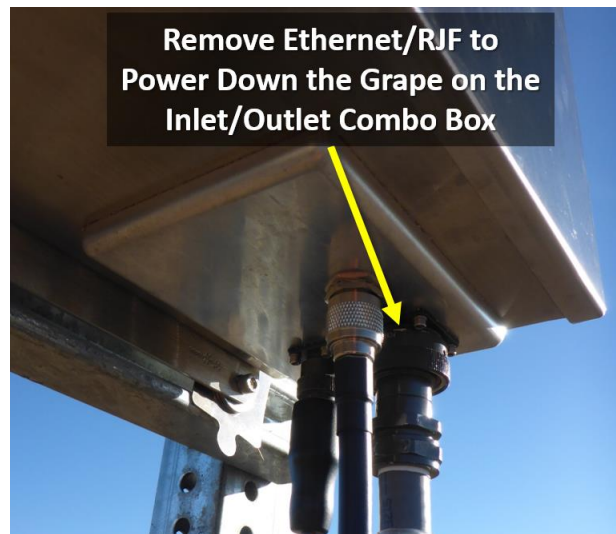

Figure 25. Inlet/Outlet Combo Box
1. The Ethernet cable from the Inlet/Outlet Combo box to power down the Uvifera (12V) Grape (Figure 25).